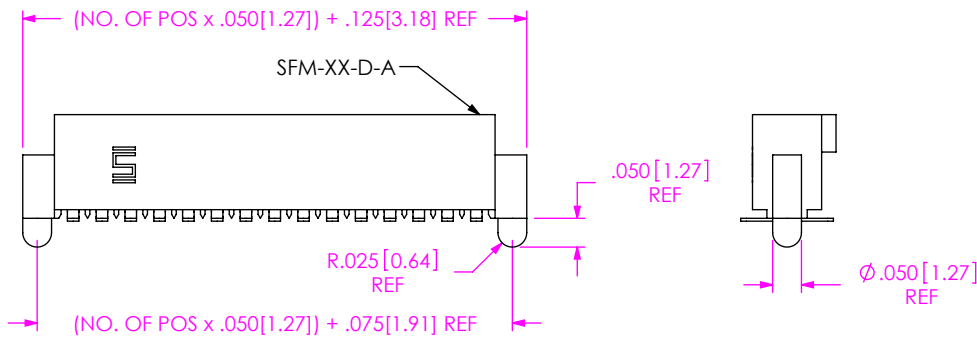

**FIG 2**
-T2: SURFACE MOUNT (SEE FIG. 2, SHT. 2)
(SAME AS FIG 2, DIFFERENT AS SHOWN)